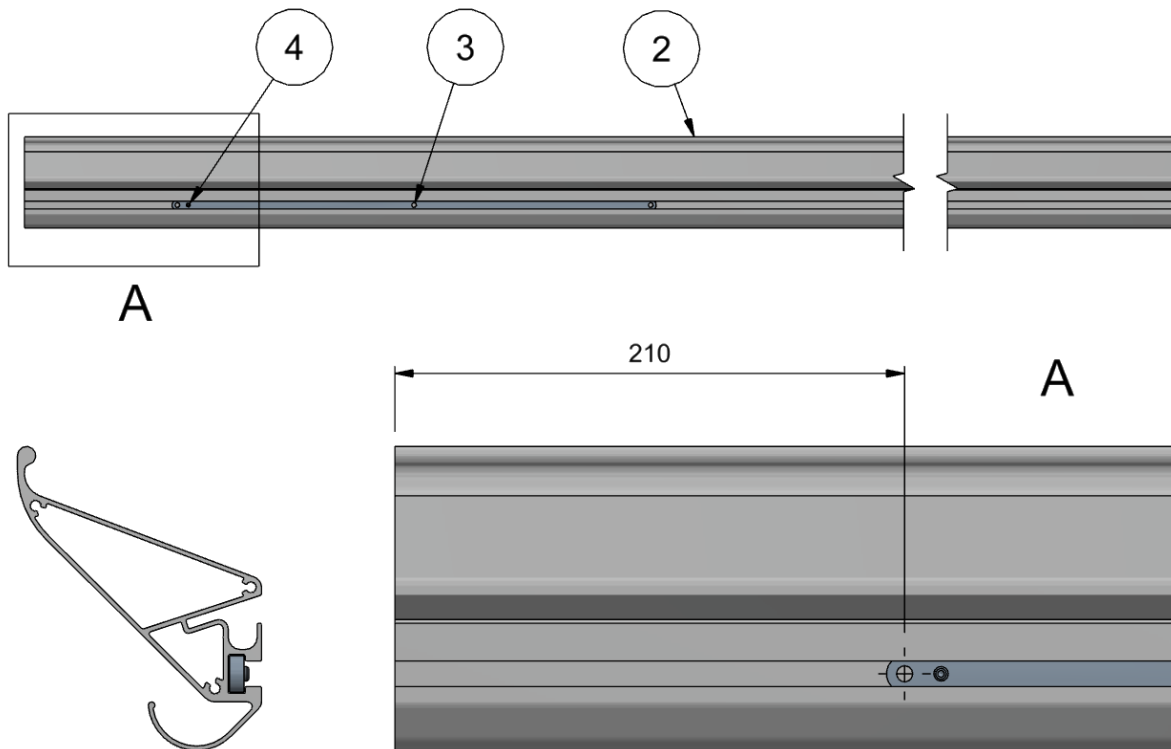

Figure 5 Mounting strip
- Fit a mounting strip (3) with an M6x12 set screw (4) in the groove of the profile (2), the first M8 tapped hole 210mm from the end of the profile; tighten the set screw; do this for two profiles. See Figure 5: